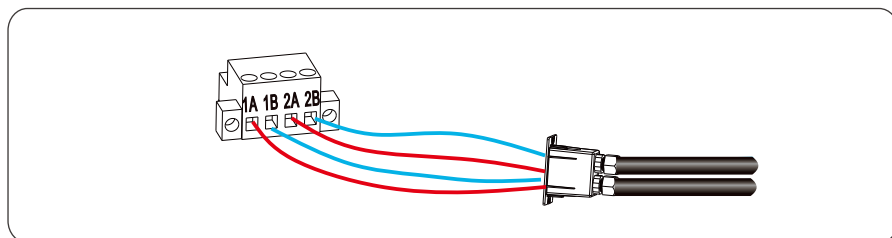

Figure 5.20 RS485 Terminal block connection
Step 4 Connect RS485 differential positive and negative signal of data logger to terminal 1A and 1B of the inverter, and connect terminal 2A and 2B of the inverter to terminal 1A and 1B of another inverter, as shown in Figure 5.20.